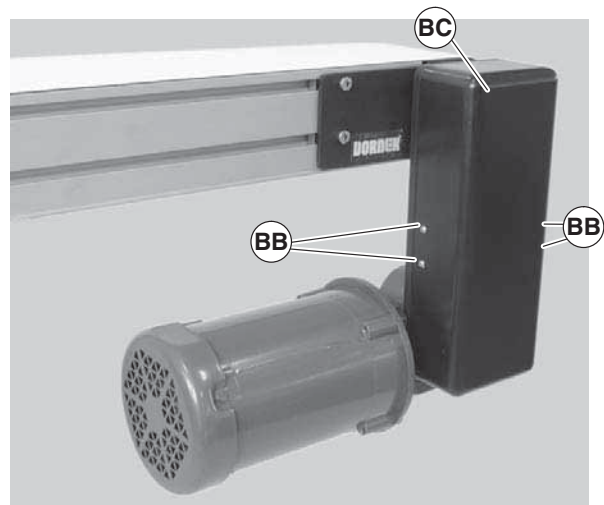

Figure 40
- Remove four (4) screws (Figure 40, item BB) and remove cover (BC).